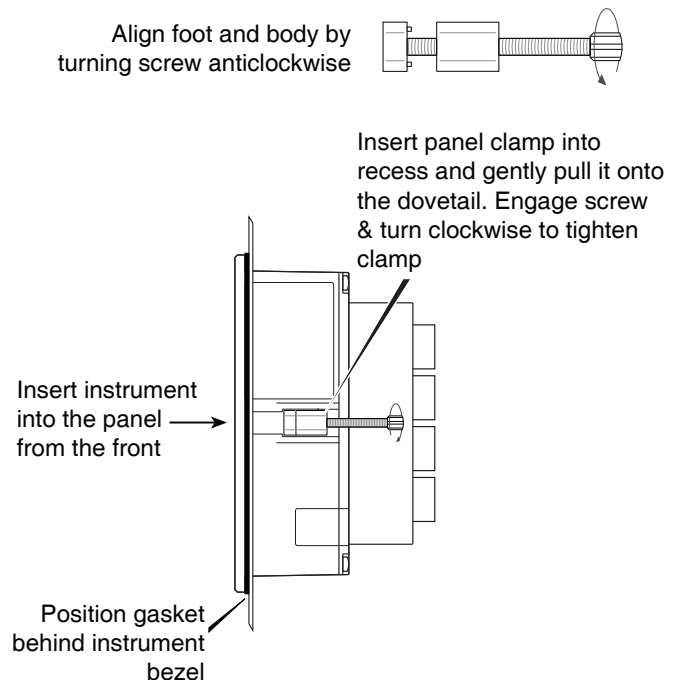

Fig 3 Installation of panel and mounting clamps
2. First ensure that all eight panel mounting clamps are closed by turning the knurled screws fully anticlockwise until the two pins in the clamp foot align with holes in the clamp body as shown in Fig 3.
4. Place a clamp in the recess on each side of the BA3101, pulling gently to slide it onto the dovetail as shown in Fig 3. Push the knurled screw slightly forward to engage the thread and tighten by turning clockwise until it is just finger tight. When both clamps are fitted ensure that the gasket behind the front panel bezel remains correctly positioned before fitting the remaining panel mounting clamps. Finally, fully tighten all the panel clamps to secure the instrument. The maximum recommended clamp tightening torque is 22cNm (1.95 lbf in) which is approximately equivalent to finger-tight plus one half turn. Do not over tighten.